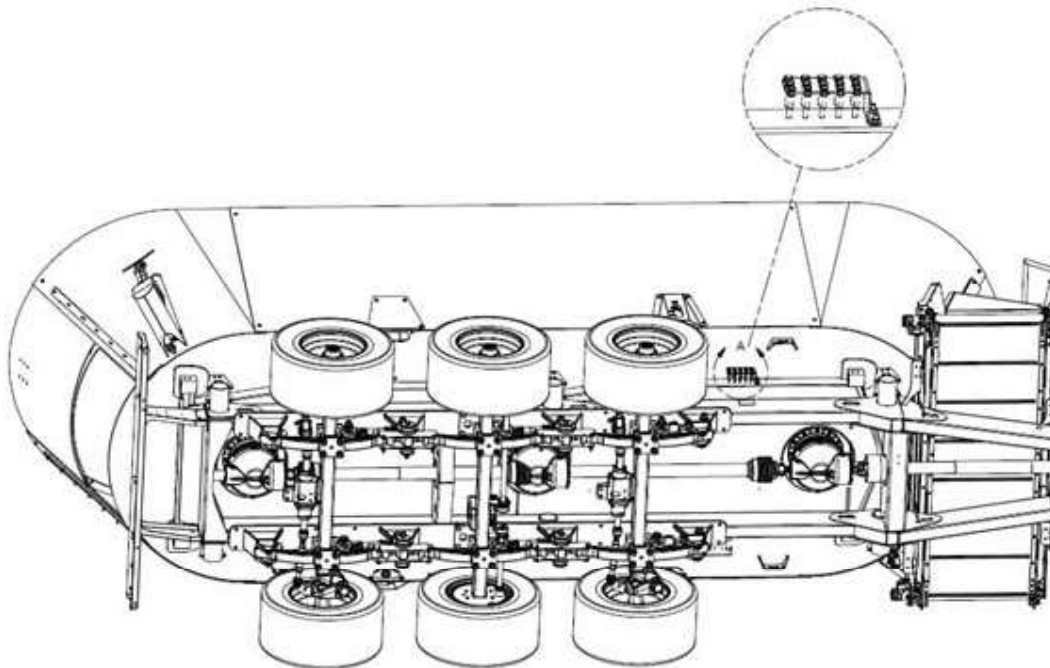

Figure 41 — Location of the Shear Bolts on the A950 and A1230 SMARTMIX
3. Insert a new bolt (available on the spare bolt support) (Figure 41) (see Table 17 — Power Take-Off (PTO) Shear Bolts in "Appendix A — SMARTMIX maintenance summary tables" on page 126 for the type of shear bolt to use for your mixer model).